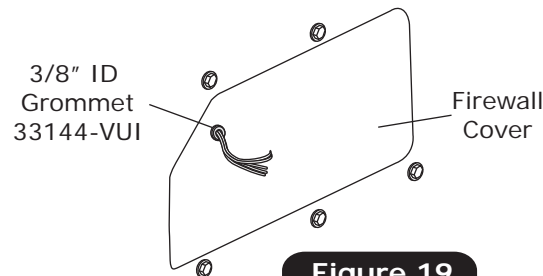

Figure 19
2. Install 3/8" ID grommet (See Figure 19, below).
3. Route A/C wires through 3/8 ID grommet as shown on Figure 19, below (12 volt/ground/binary switch/heater valve).